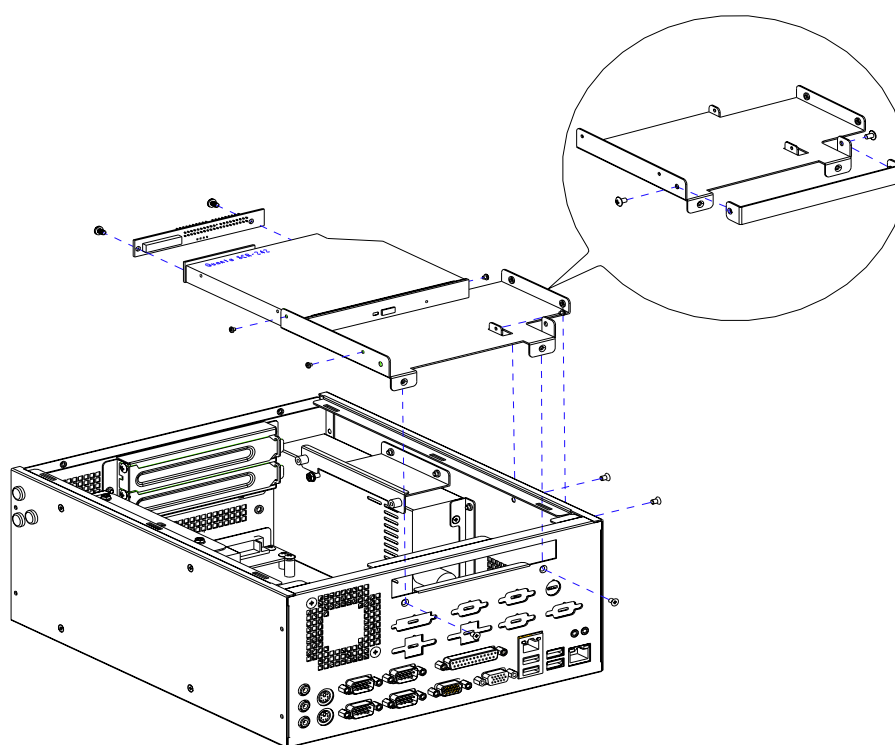

**Figure 2.6 Installing a 3.5" HDD**
1. To install the 3.5" internal HDD, remove the disk drive bracket by releasing the four screws (with the rubber cushions) from outside the chassis (see Figure 2.6).